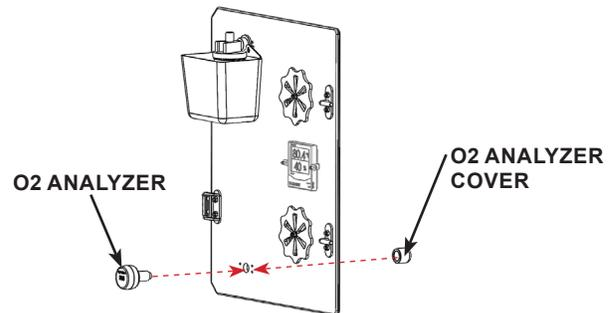

FIGURE 3.5 - O₂ Analyzer Installation
STEP 2: Insert the analyzer through the hole and secure with the cover, thread onto the analyzer, hand tighten. See FIGURE 3.5